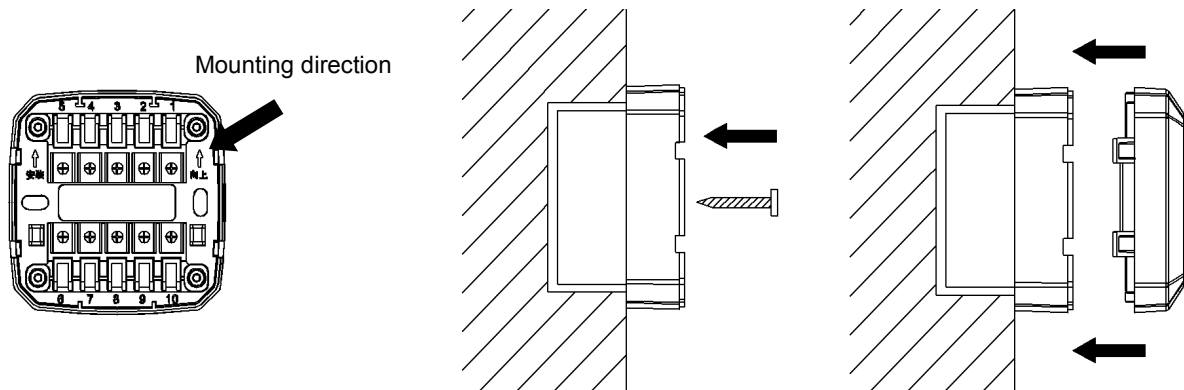

Fig.2
4. Control interface Mounting showing in Fig.2.